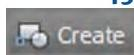

**FIGURE 7.4** Blending between concentric arcs
**13.** Press Enter to repeat the BLEND command, and select the two arcs near the right endpoints; another spline object is created (see Figure 7.4).
**14.** Click the Stretch tool in the Modify panel, click points A and B shown in Figure 7.4 to create a crossing window, and press Enter. Click an arbitrary point on the drawing canvas as the first point of the Stretch operation. Move the cursor upward on the drawing canvas, type **3** (or **7** for metric), and press Enter. The seat depth is reduced.